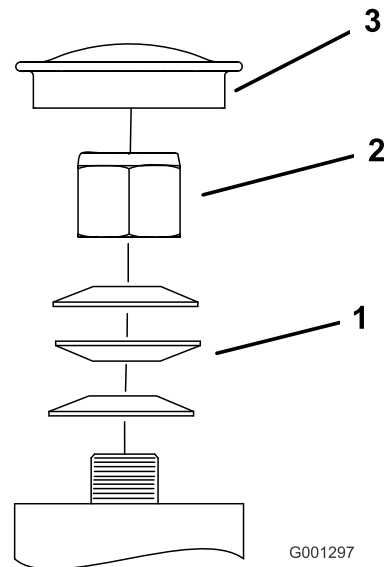

Figure 52
3. Remove the dust cap from caster and tighten the lock nut (Figure 52).
4. Tighten the locknut until the spring washers are flat, and then back off a 1/4 turn to properly set the preload on the bearings (Figure 52).
5. Install the dust cap (Figure 52).
Important: Make sure that the spring washers are installed correctly as shown in Figure 52.